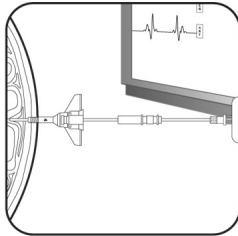

Figure 8: Zero patient monitor. Connect blue luer on Catheter to AMS luer.
- ⇒ Remove the Cap and connect the Catheter's blue AirPulse luer to the AMS luer connection. Tighten the luers to ensure a secure connection (Fig. 8).